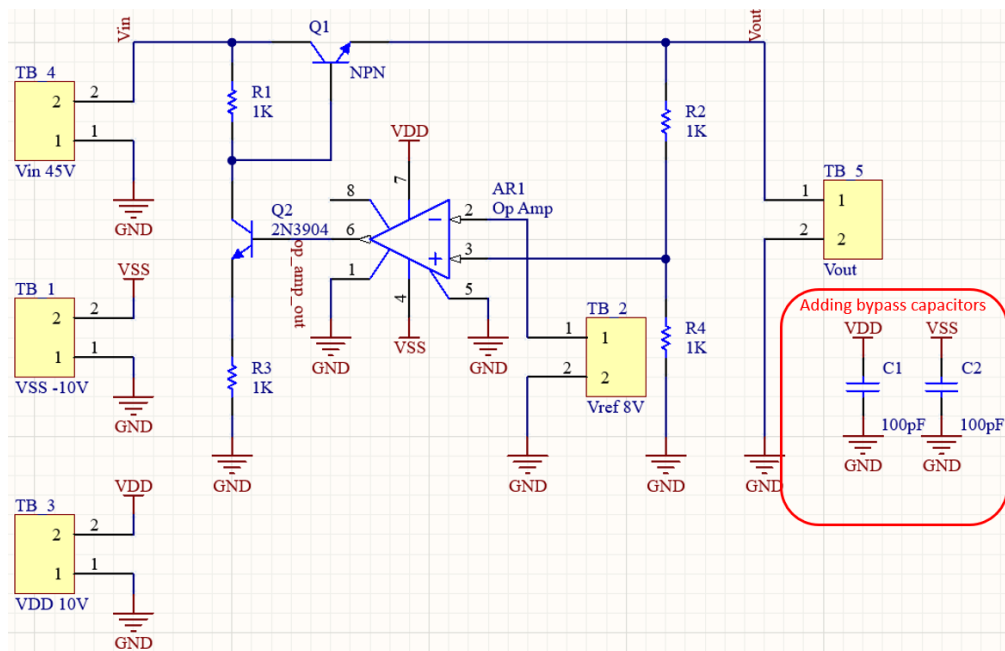

Figure 17: Updated schematic with bypass capacitors
- Place two capacitors  $C_1$  and  $C_2$  at the  $V_{SS}$ ,  $V_{DD}$  (see Figure 17).